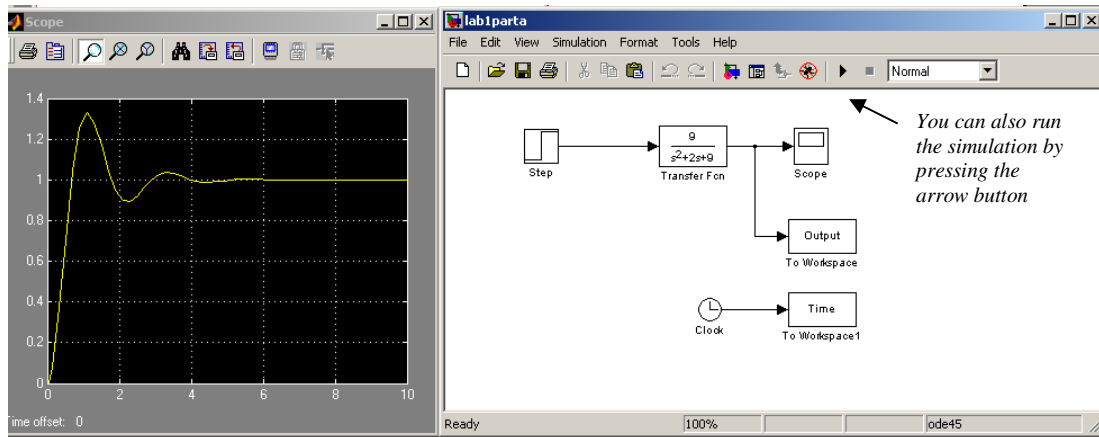

Figure 10. Simulation Results for Section 2.2
2.2.6 Run Simulation. First open the scope window by double-clicking on it. Then go to Simulation → Start. When the simulation has completed you will see the output on the scope. You should see something similar to Figure 10.